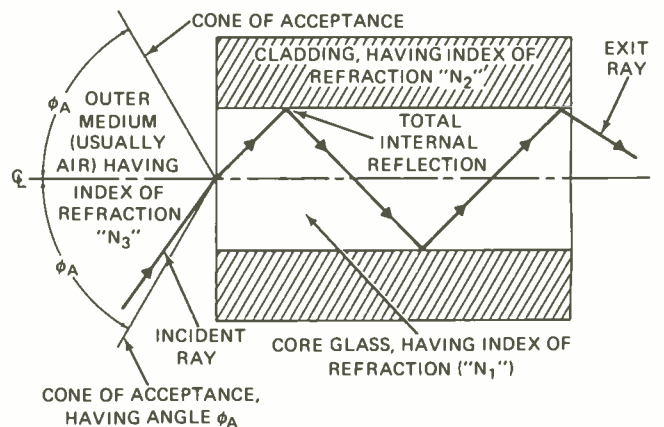

FIG. 2—ACTION OF LIGHT RAY inside fiber-optic filament. Cladding must have refraction index for total internal reflection.
Sin  $\theta_a$  is also called the Numerical Aperture (NA), and represents the maximum angle at which a ray of light that is incident on the transmitting core glass can be trapped within the fiber. Beyond this maximum angle, rays are either reflected off of the core face, or escape the core/cladding interface. The higher the numerical aperture becomes, the greater the angle of acceptance and the greater the light gathering power exhibited by the fiber. These relations are summarized in Fig. 2. In photographic terminology, the f/number = 1/2